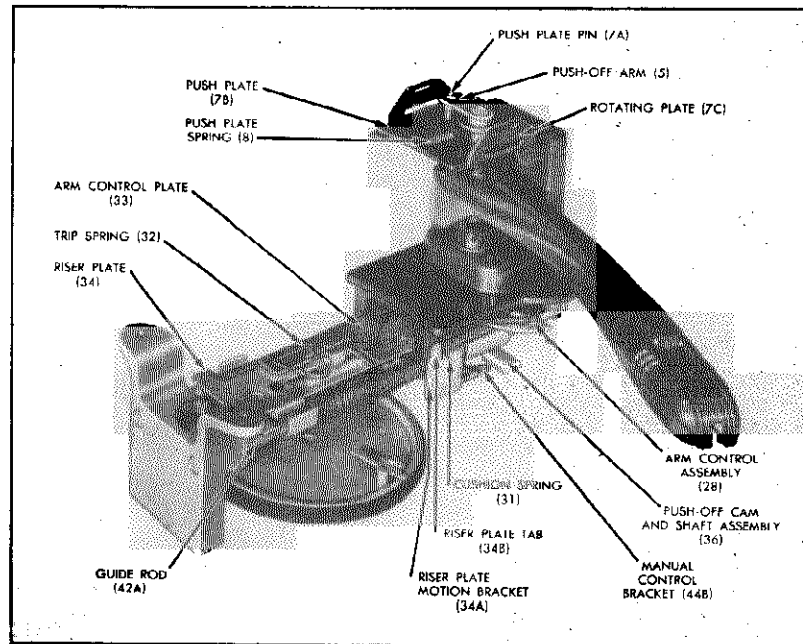

FIGURE 5
The control knob (60) is located on top of the motorboard (72). The parts used to provide manual play are shown in figures 5 and 6.
- (a) Rotate the record support to the 10-inch position. Remove push off arm (5).
- (b) Line up push off cam (36C) with push off arm (5) so they are parallel. If the push off is still faulty set push off cam (36C) slightly back of push off arm (5), this will give a little less push off on 10-inch side and little more on 12-inch side. Reverse this procedure for more push off on 10-inch side.
- (c) Put push off arm (5) in position leaving push off arm about 1/32" above top of arm lift shaft.
- (a) Mounting screw on eccentric cam (53) may be loose. Tighten.
- (b) Cushion spring (31) has slipped out of position and is on wrong side of riser plate tab (34B). Re-position spring. (See Figure 5.)
- (c) In normal operation, the trip spring (32) holds the arm control plate (33) against the riser plate (34). If the trip spring is faulty, it permits the arm control plate to rise too high above the riser plate. This causes the reject catch (51) to pass underneath the stop tab (33A). To correct, bend the legs of the trip spring closer together. If necessary replace trip spring.
- (d) Eccentric cam (53) is bent so that reject catch (51) passes underneath stop tab (33A) on the arm control plate (33). To correct, straighten cam by putting changer out of cycle and pressing upward on cam near reject catch.
- (a) Cushion spring (31) has slipped out of position and is on wrong side of riser plate tab (34B). Re-position spring. (See Figure 5.)